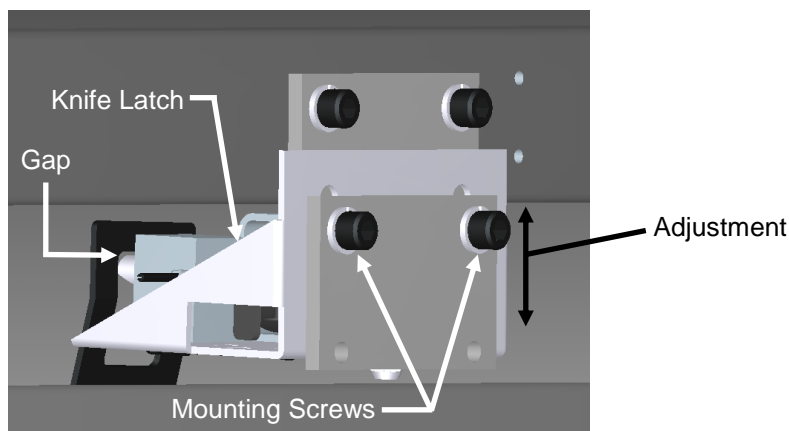

Figure 42 – Knife Latch
4. Check the gap as shown in Figure 42. The gap should be .030" (.8 mm) to .060" (1.5 mm).
5. If the gap is out of range, adjust the knife latch height by loosening the mounting screws (Figure 42) and move the knife latch assembly up or down until the gap is in the correct range of .030" (.8 mm) to .060" (1.5 mm).